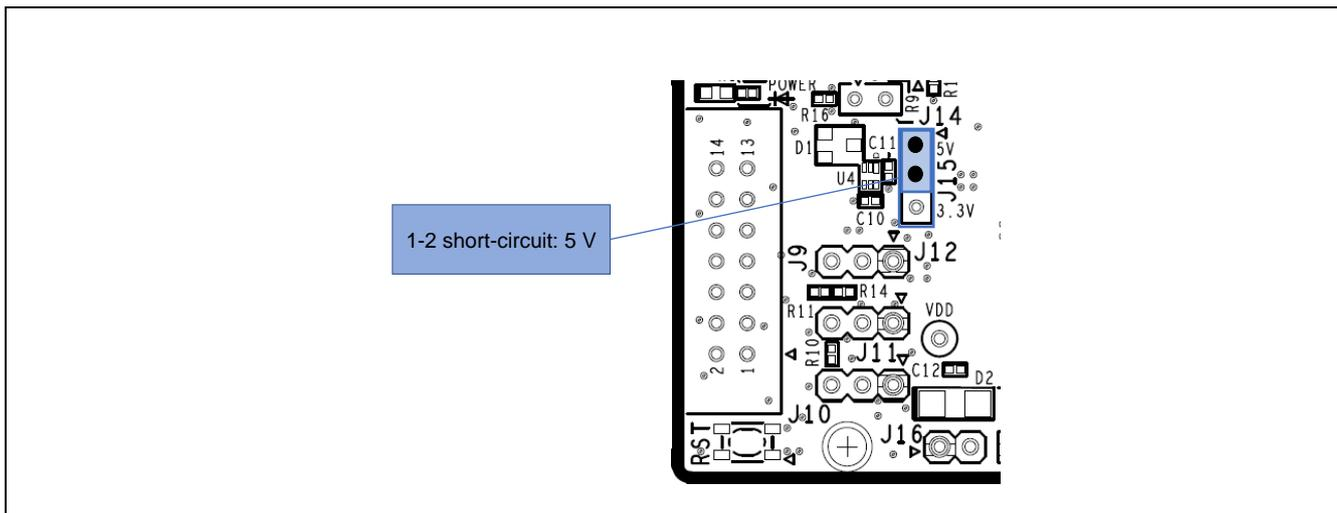

Figure 5-4 Setting of the Header to Select a 5-V Power Supply (Top Side)
- 1-2 of J15 being short-circuit selects a 5-V power supply. This is the default setting as shipped (Figure 5-4).